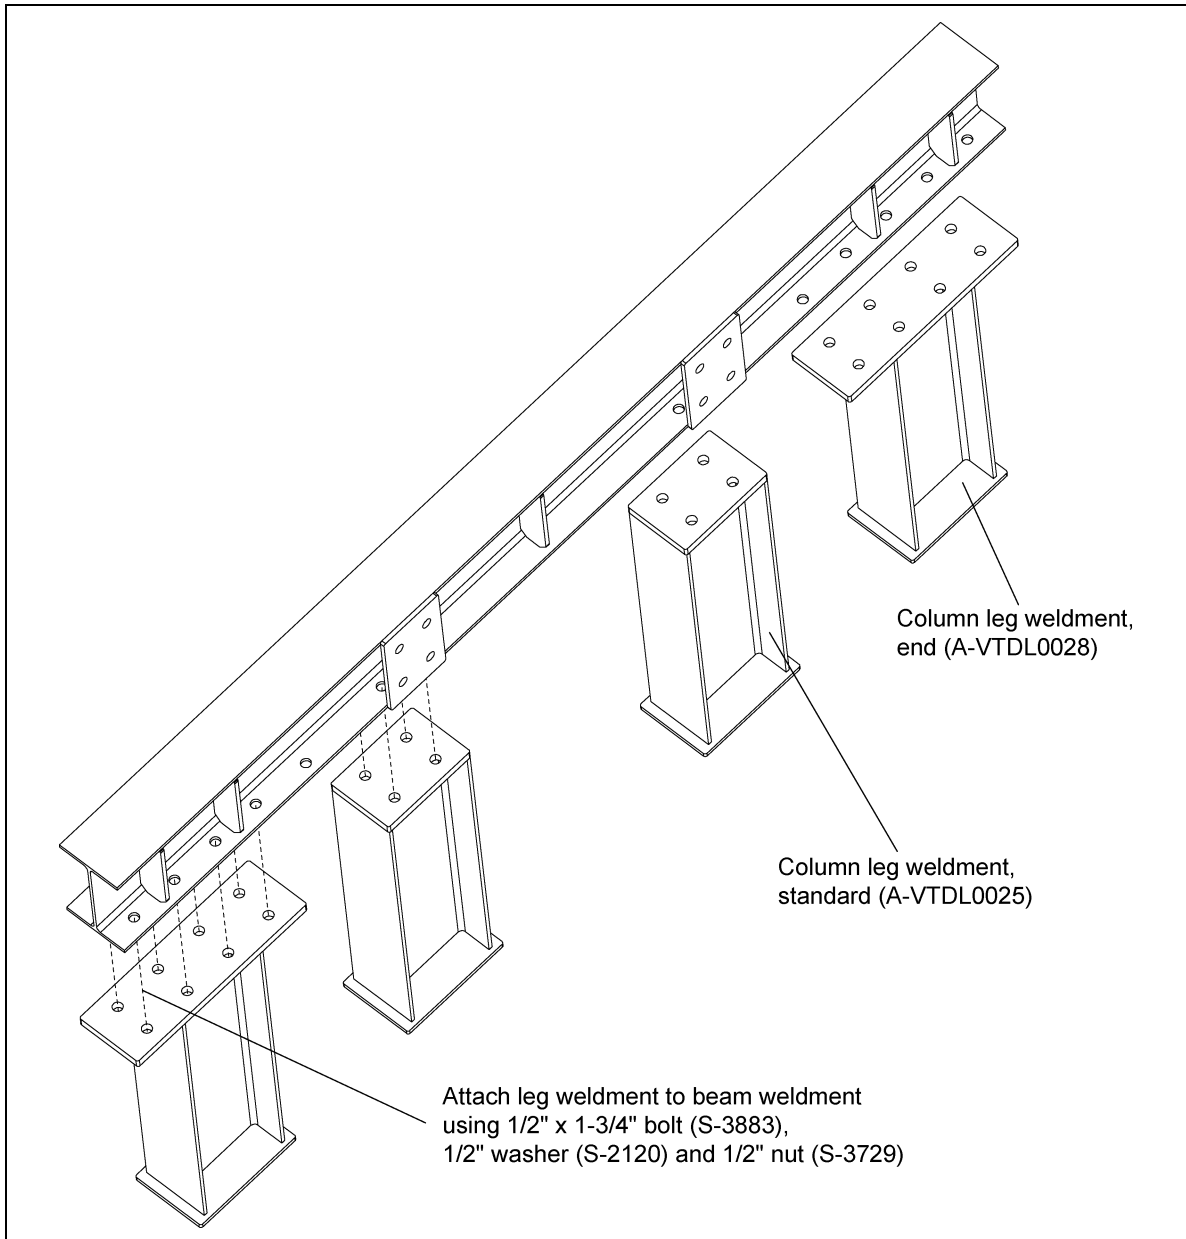

Figure 2A
1. Attach column leg weldments to each beam. Attach one A-VTDL0028 at each end of beams. Use A-VTDL0025 at the remaining locations on the beams. See below table for quantities per beam. (See Figure 2A.)